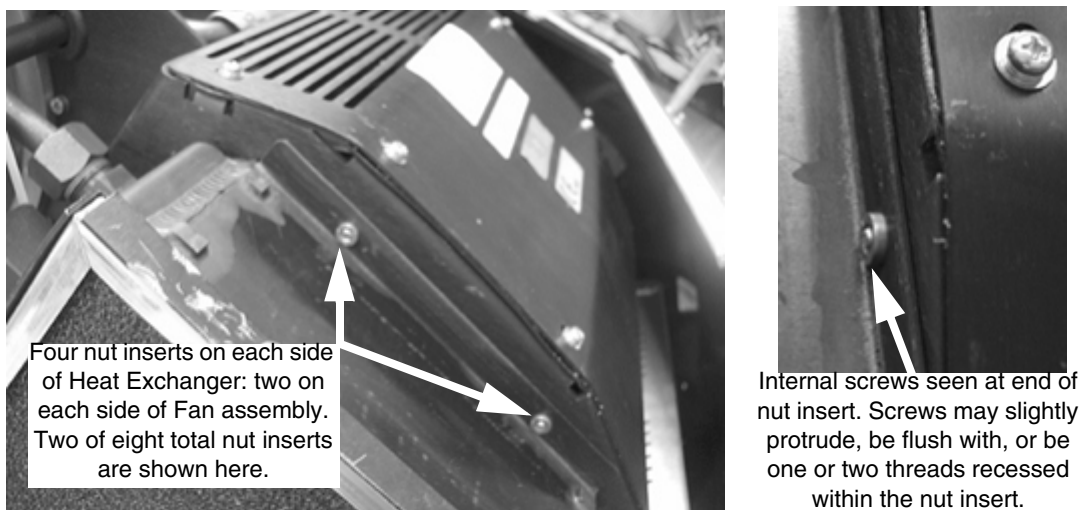

Figure 3 - Two of Eight nut inserts shown (left); screw seen just at end of nut insert (rt)
- 2.) Look at the nut inserts (shown below) on the ends of the Heat Exchanger to verify that the end of the internal screws are seen at the end of the nut inserts as seen in Figure 3. If any of the screws are missing, replace Tube: